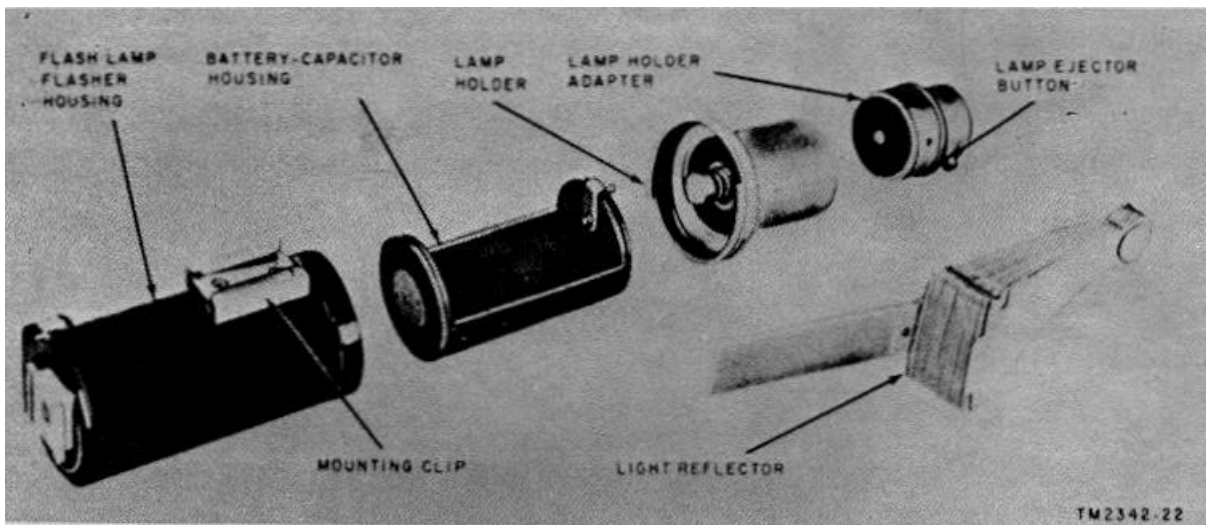

Figure 23. Flash lamp flasher, disassembled.
- (1) Remove the lamp holder (fig. 23) from the flash lamp flasher housing by rotating the lamp holder one-quarter turn counterclockwise.
- (2) Lift out the battery-capacitor housing.